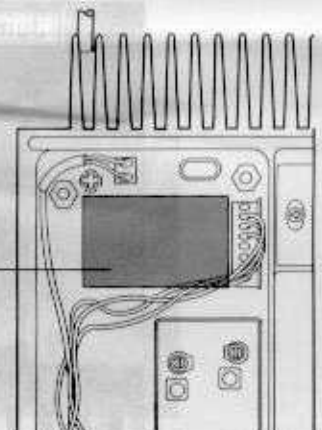

Figure 6
3. Position the FTS-8 so that the connecting pins are aligned with their mating connectors as shown in Figure 6, and gently press the FTS-8 into place.